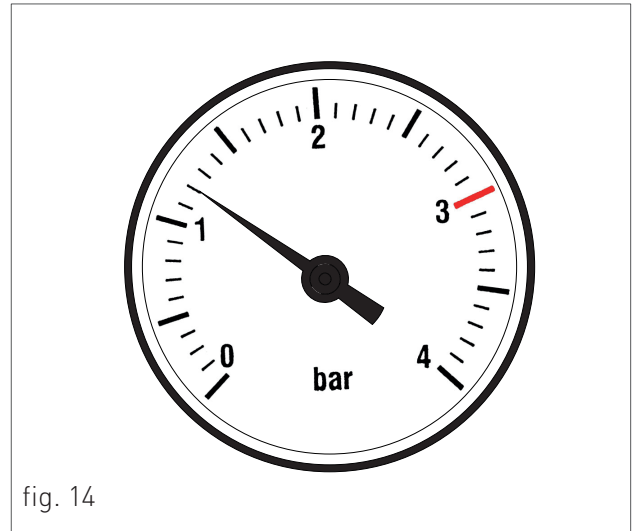

fig. 14
6. Use pressure gauge "M" (fig. 12) to make sure that the system pressure reaches 1.2 bar (fig. 14);
10. If after performing these operations you observe a decrease of the water pressure inside the system, open once again the loading tap "R" until the pressure gauge indicates the value of 1.2 bar (fig. 14)